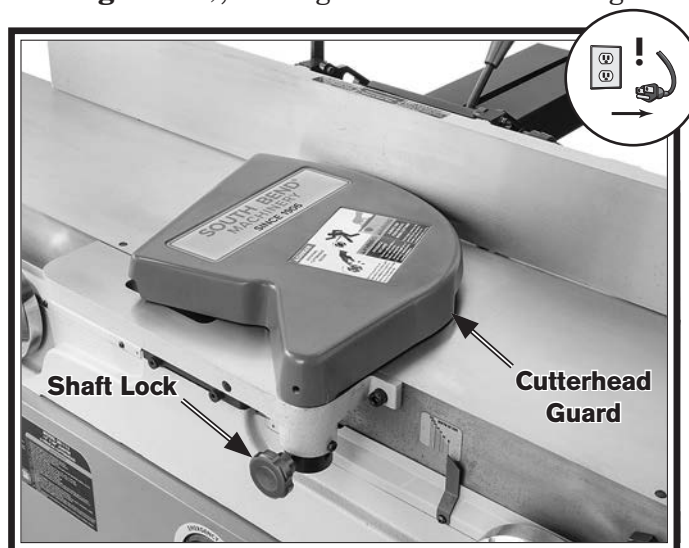

Figure 53. Cutterhead guard components.
2. Set fence to 90° and move it all the way back, then pull cutterhead guard (see **Figure 53**) and let it go.
3. Loosen shaft lock (see **Figure 53**), then move guard so it is resting against fence, and $\frac{1}{16}$ " above infeed table.
4. Holding guard height in place, rotate shaft lock clockwise until knob is centered (see **Figure 53**), and tighten to secure setting.